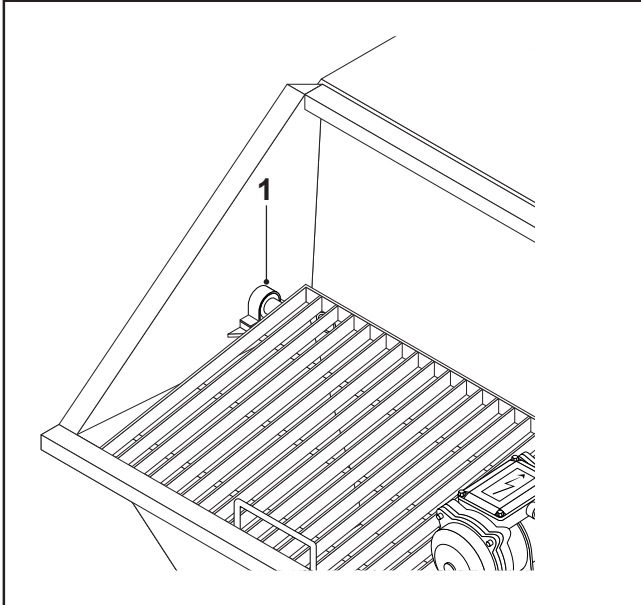

FIG.18
- Unscrew the shock absorber's anchoring bolts (FIG. 18.REF. 1).